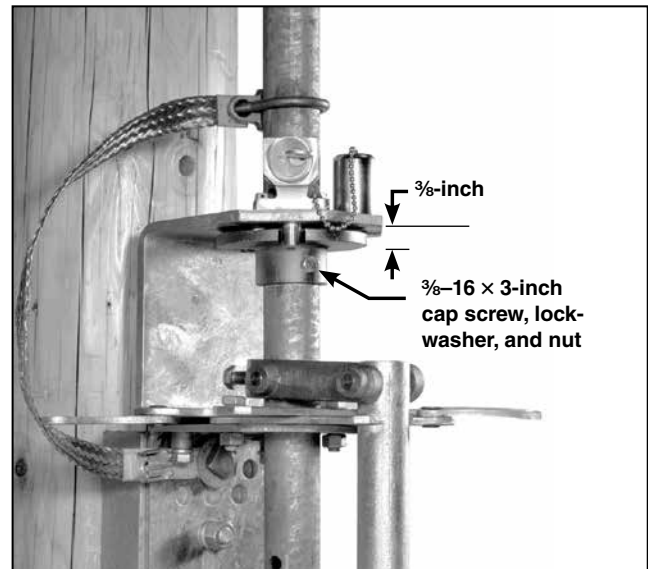

Figure 26. Attach the locking disc.
STEP 25. Hold the locking disc $\frac{3}{8}$ -inch below the interlock bracket and drill $\frac{7}{16}$ -inch diameter holes through the vertical operating-pipe section using the holes in the locking disc collar as pilots. Attach the locking disc to the pipe using the $\frac{3}{8}$ -16 \times 3-inch cap screw, lockwasher, and nut furnished. See Figure 26.